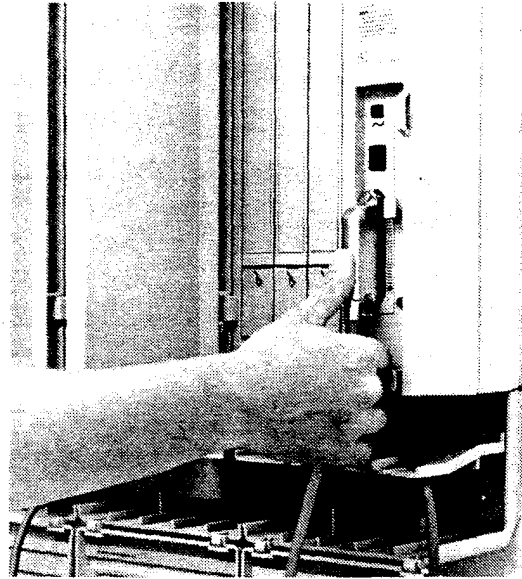

Figure 3.9 - TM CO connection
2. Perform the same step for any TM(s) in the installation as shown in Figure 3.9.